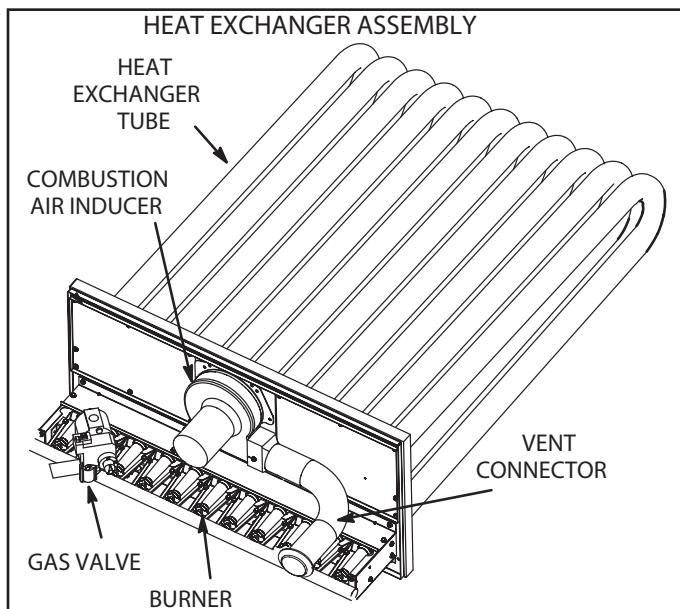

FIGURE 34
- 3 - Remove and retain screws securing combustion air inducer to flue box. Remove vent connector. See FIGURE 34.